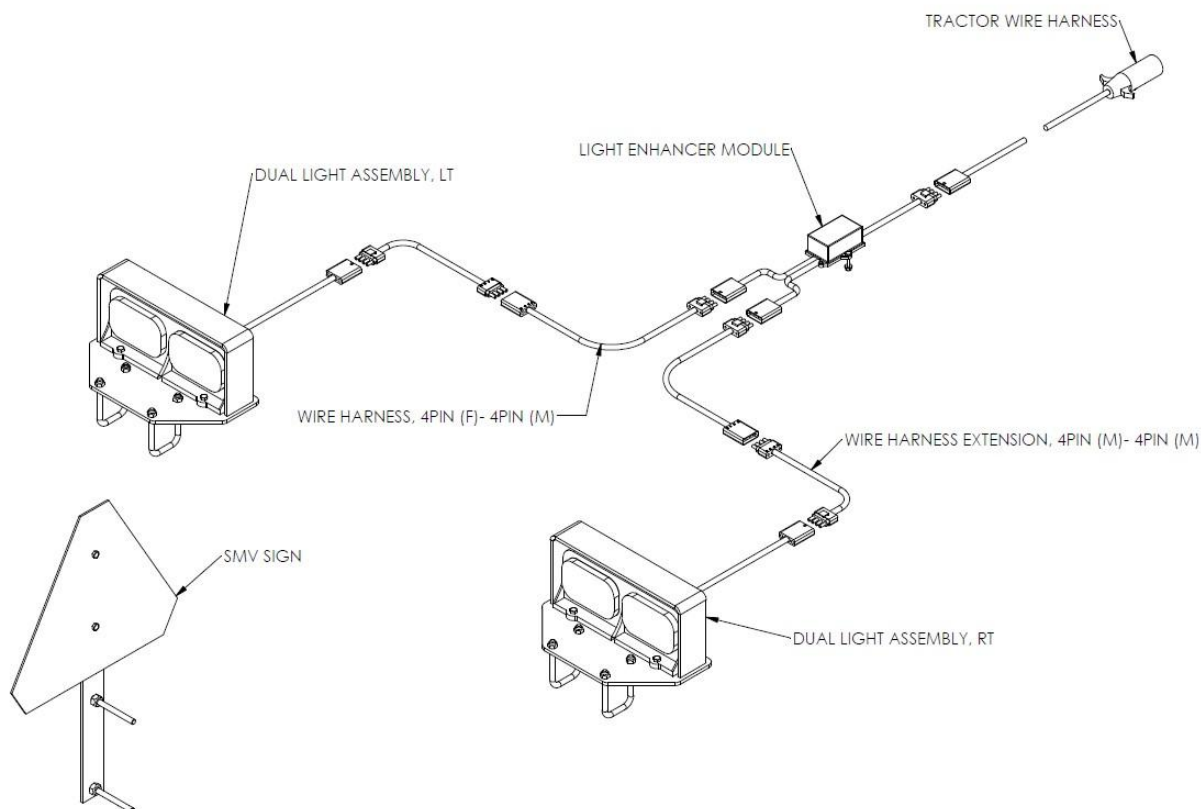

Figure 25a
1. Connect the Wire Harnesses(4PIN (F)- 4PIN (M)) to the Wire Harness Extensions (4PIN (M) - 4PIN (M)) as shown in figure 25a. Depending on model size, there may be one or 2Dishbone extension harnesses.